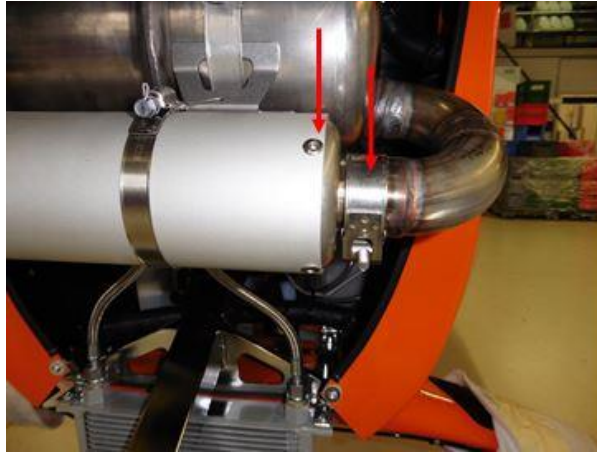

Fig 1 - Rivets at the hot and hinge pin clamp
- 12 When the outer shell is riveted to the cold end, reposition the outer shell so that the outer shell can be riveted to the hot end (Abb.1).